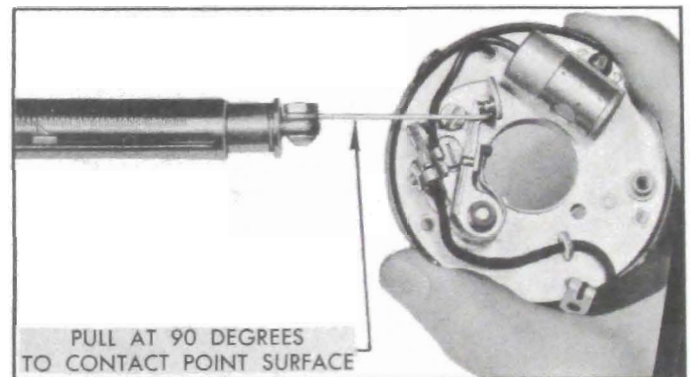

Figure 10-61—Checking Breaker Arm Spring Tension
11. Attach hook of spring scale to breaker arm at side of contact point and check the tension required to just separate the points, with pull exerted at an angle of 90° with the point surface. See figure 10-61. Tension must be 19 to 23 ounces.